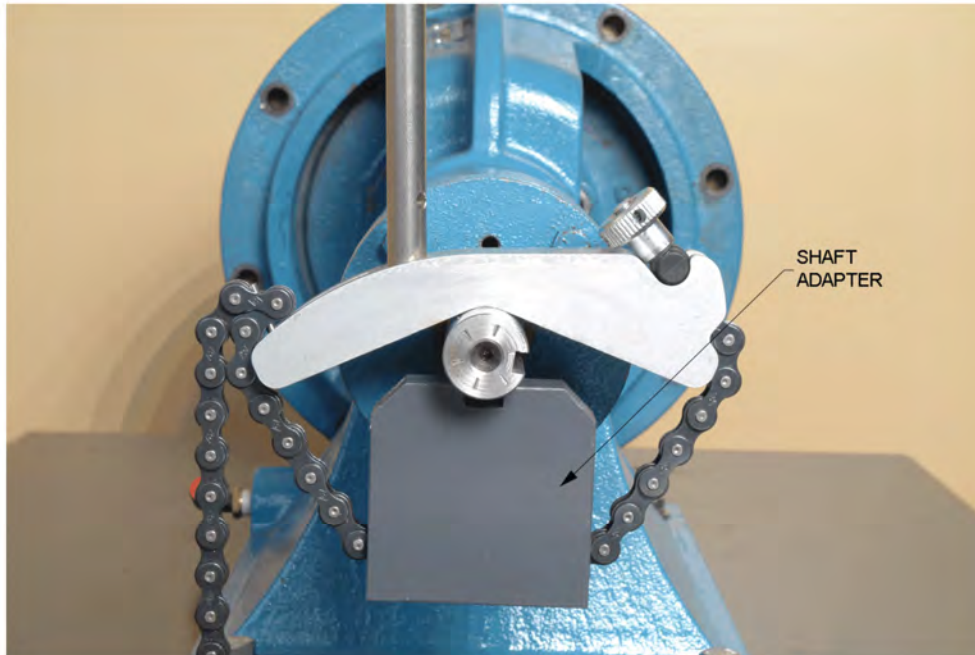

Figure 1-2. Use the shaft adapters to install the measuring units.
- 3. Using the shaft adapters, install the measuring units as described in Appendix D and shown in Figures 1-2 and 1-3. Install the stationary measuring unit (S) on the pump shaft and the mobile measuring unit (M) on the Motor shaft.